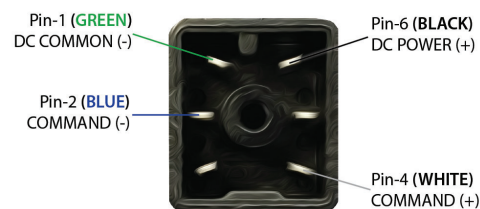

Figure 2
3. Figure 1 shows the location of the ISQBF electrical connector and figure 2 shows the connector.